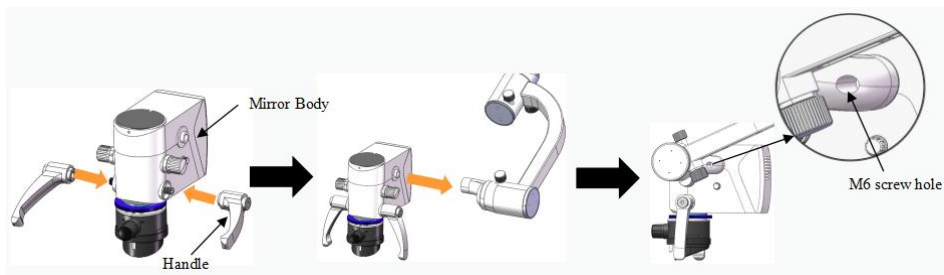

Figure 11.3.1 Mirror body assembly
- 1) Take out the handle and install it on both sides of the mirror body and tighten it, as shown in Figure 11.3.1. Then install the mirror body at the C-type hanging arm joint position. Pay attention to aligning the pin holes during installation. Then tighten the M6 screw from the rear of the C-type hanging arm by using the included No. 5 Allen wrench.